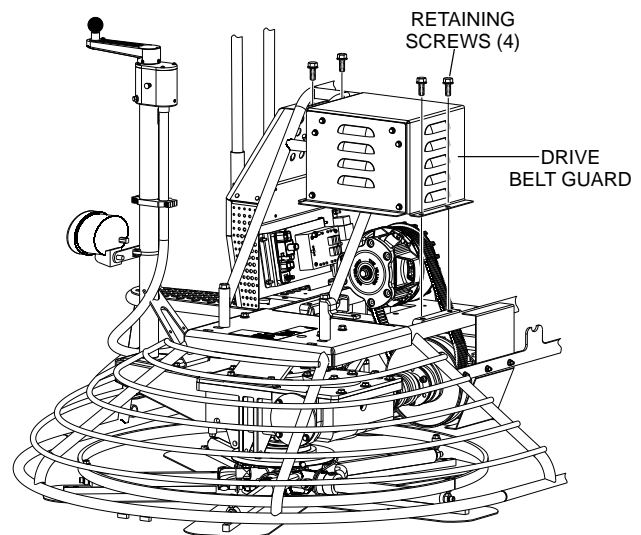

Figure 25. Drive Belt Guard Removal
11. Remove the retaining screws (4) that secure the drive belt guard (Figure 25) to the trowel frame.